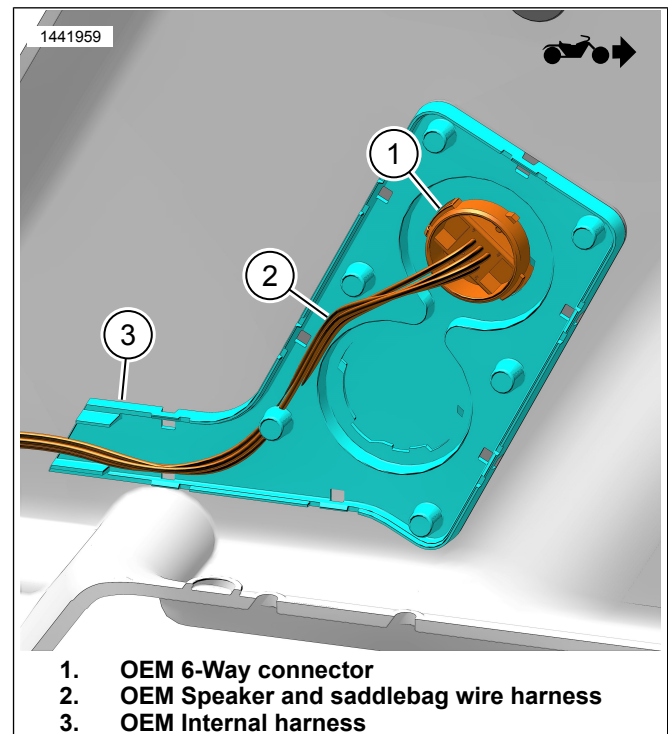

Figure 6. OEM Internal Harness (Inside Saddlebag)
1. See Figure 6. Remove right saddlebag OEM components.
- d. Remove OEM 6-way connector [289B] (1). Release detent lock and turn counterclockwise.
- e. Pull speaker and saddlebag harness wires (2) and connectors through hole. Save for later use.
- f. Remove and discard OEM internal harness (3) and screws.
2. See Figure 6. Install right saddlebag OEM 6-Way connector (1).
- a. Install connectors, speaker and saddlebag harness wires (2) through hole.
- b. Install OEM 6-way connector [289B] (1). Turn clockwise and until detent locks.